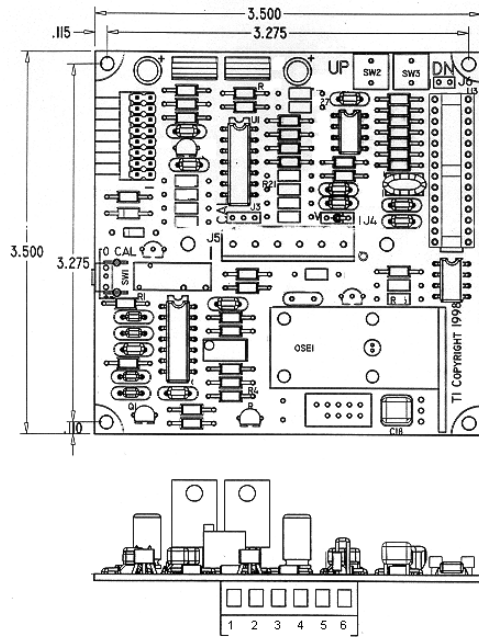

Figure 1: 9GS-4 PCB and Connector
- Securely connect all wires according to **Table 4 & Figure 1**.